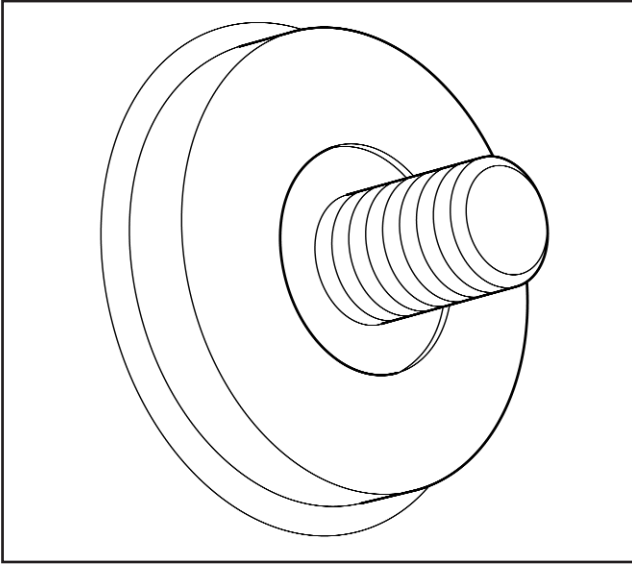

Fig 4.20
7. Remove the pivot bolts and alignment bosses from the hanger bracket (Figs 4.20 & 4.21).